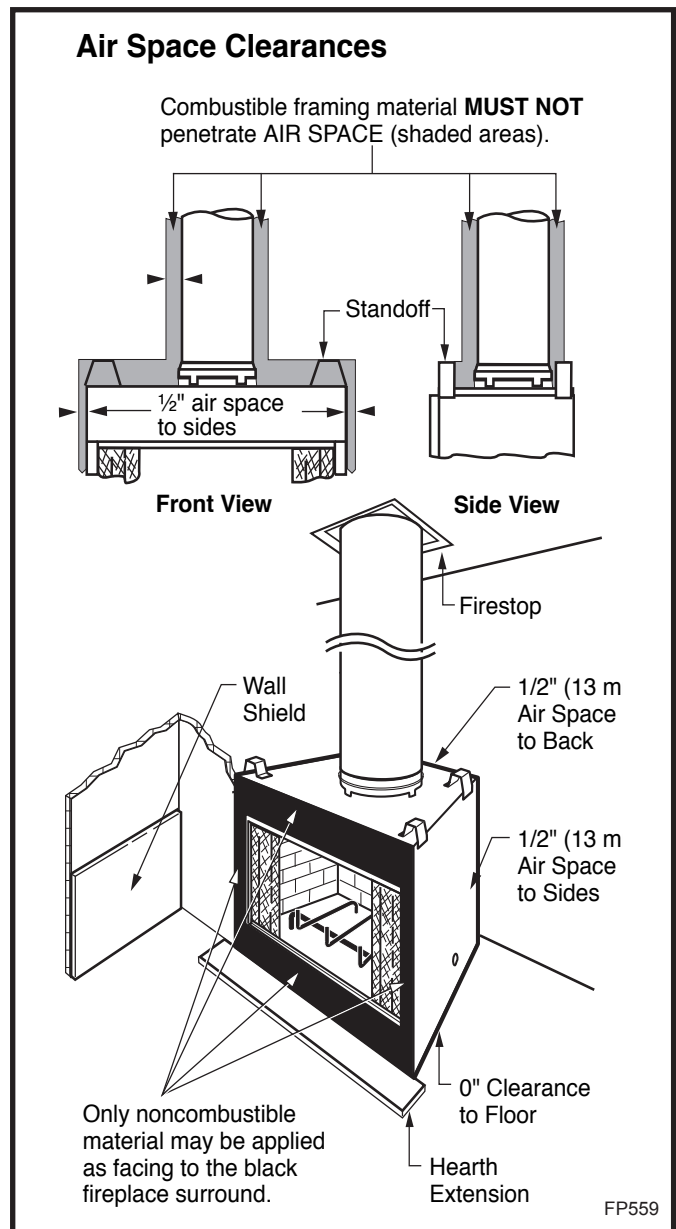
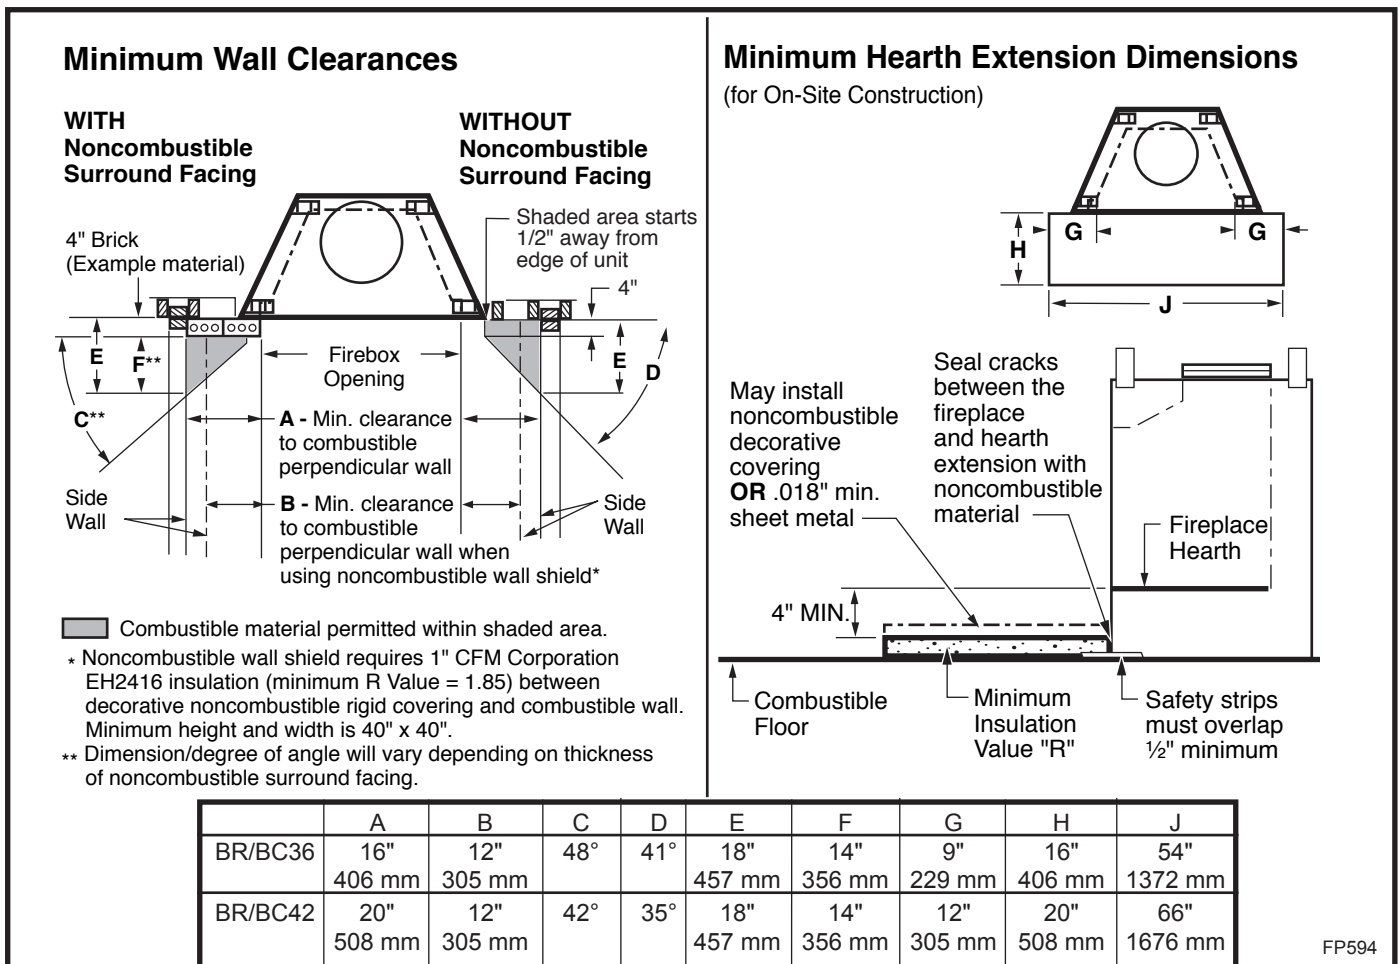

Fig. 20 Minimum clearances to combustibles.
Fig. 23 Combustible side wall protection and hearth extension dimensions.
CAUTION: All joints between the finished wall and the fireplace surround (top/sides) must be sealed with noncombustible material to prevent cold air leakage into the room. Only noncombustible material may be applied to the facing of the fireplace surround. (Black painted area) (Fig. 20)
Often a decorative surround or vertical portion of the mantel is desired. If this is constructed of any combustible material it must be within the safe zone indicated in Figure 23.
Adjacent combustible side walls that are within minimum dimensions shown in Figure 23 of the fireplace opening must be protected with MHSC Wall Shield Model SP40 or a specifically built wall shield described in Figure 20.
The special wall shield design described in Figure 20 is an alternate method of adding protection to side walls and can be used in place of the SP40 with the same wall clearances specified for the SP40. Rt must =1.85 minimum.
A hearth extension is required to protect a combustible floor in front of the fireplace. Refer to Figure 23 for minimum dimensions and mounting detail.
The hearth extension described in Figure 23 must be a durable noncombustible material with a minimum (total) Rt value of 1.09; see Figure 24 for examples. The overall height (above a combustible floor), depth and width must be as indicated, with the extension centered to the fireplace opening.
The top of insulation must be covered with a noncombustible decorative covering or a piece of .018" minimum sheet metal, to protect hearth extension material. (Fig. 23)
Secure the hearth extension to the floor to prevent shifting, using trim molding or other similar means at three (3) outer edges. Seal crack between the fireplace hearth and hearth extension with a noncombustible material. (Figs. 23 and 25)
WARNING: HEARTH EXTENSION MUST BE INSTALLED IN ACCORDANCE WITH FIGURE 23 AND MUST NOT COVER THE BOTTOM FRONT OPENING OF THE CIRCULATING MODEL.